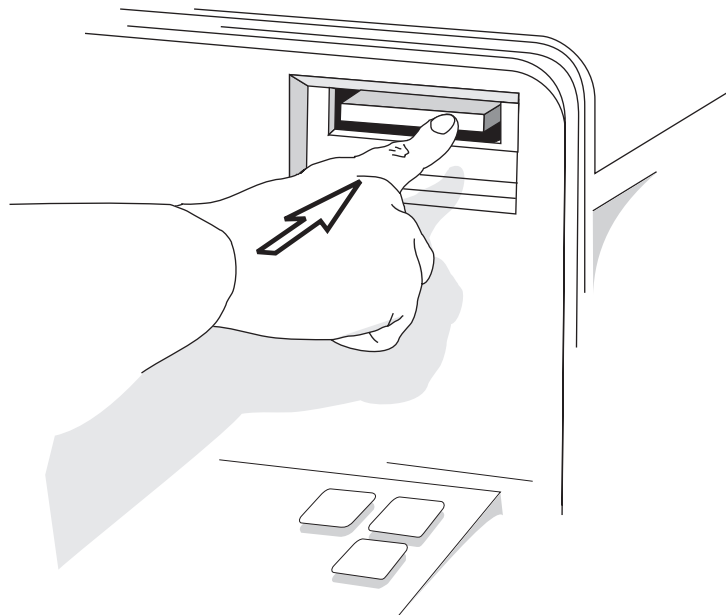

Figure 5-2
- Insert the programmer tape into the tape drive slot. The tape loads automatically. *See Figure 5-2.*